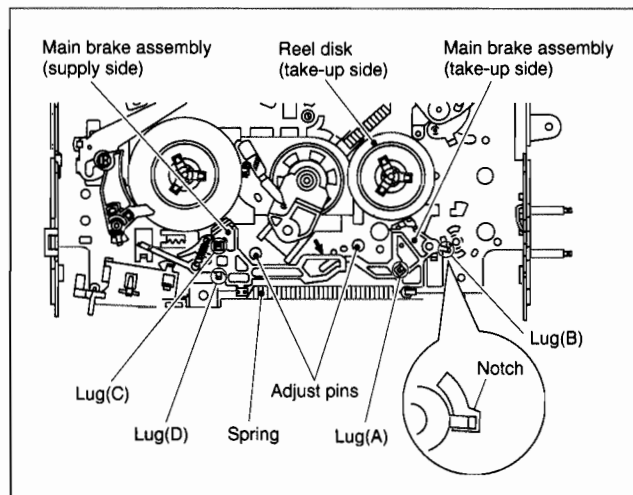

Fig. 2-2-37
- (1) Move the main brake assembly (take-up side) in the arrow-indicated direction and remove the reel disk (take-up side).
- (2) Remove the spring attached to the main brake assembly.
- (3) Remove the lug (A) of the main brake assembly (take-up side) and pull out the lug (B) after bringing it into alignment with the main deck notch.
- (4) Remove the lugs (C), (D) and (E) of the main brake assembly (supply side) from the main deck and pull them off. (See Fig.2-2-37.)